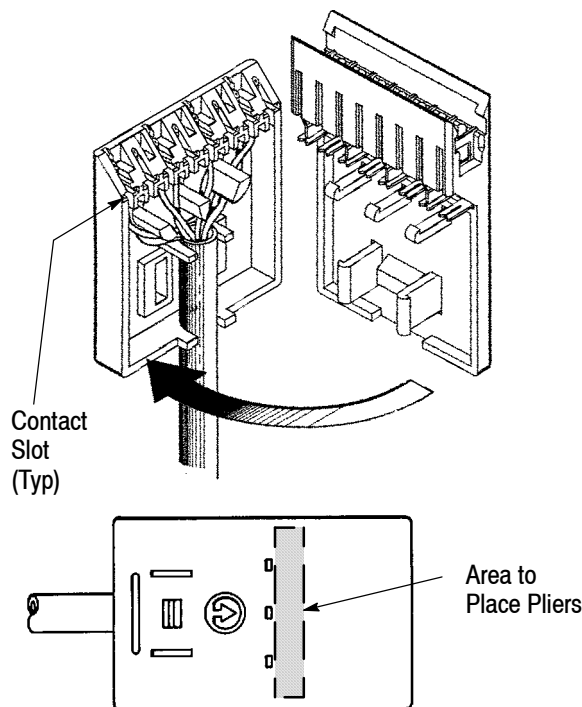

Figure 5
7. Invert lower plug assembly and carefully align over upper plug housing. Place tips of contacts into slots over each conductor. See Figure 5.